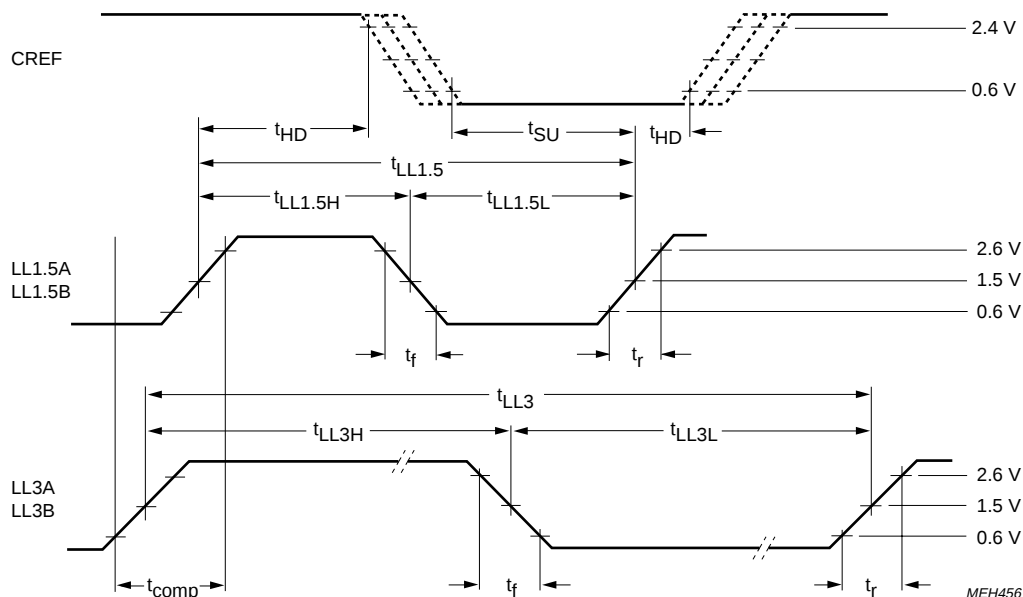

Fig.3 Output timing.
- $f_{LFCO} = 7.0 \text{ MHz}$ and output load 40 pF (Fig.3). V_{SSA} and V_{SSD} short connected together.
- t_{comp} is the rise time from LOW of all clocks to HIGH of all clocks (Fig.3) including rise time, skew and jitter components. Measurements taken between 0.6 V and 2.6 V . Skew between two LLx clocks will not deviate more than $\pm 2 \text{ ns}$ if output loads are matched within 20%.